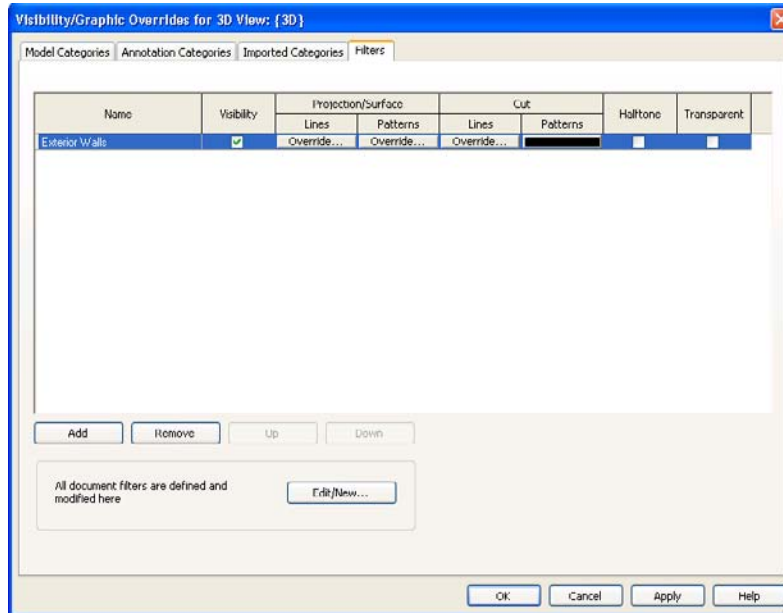

Figure 2.22
10. Switch to the Filters tab (Figure 2.22).